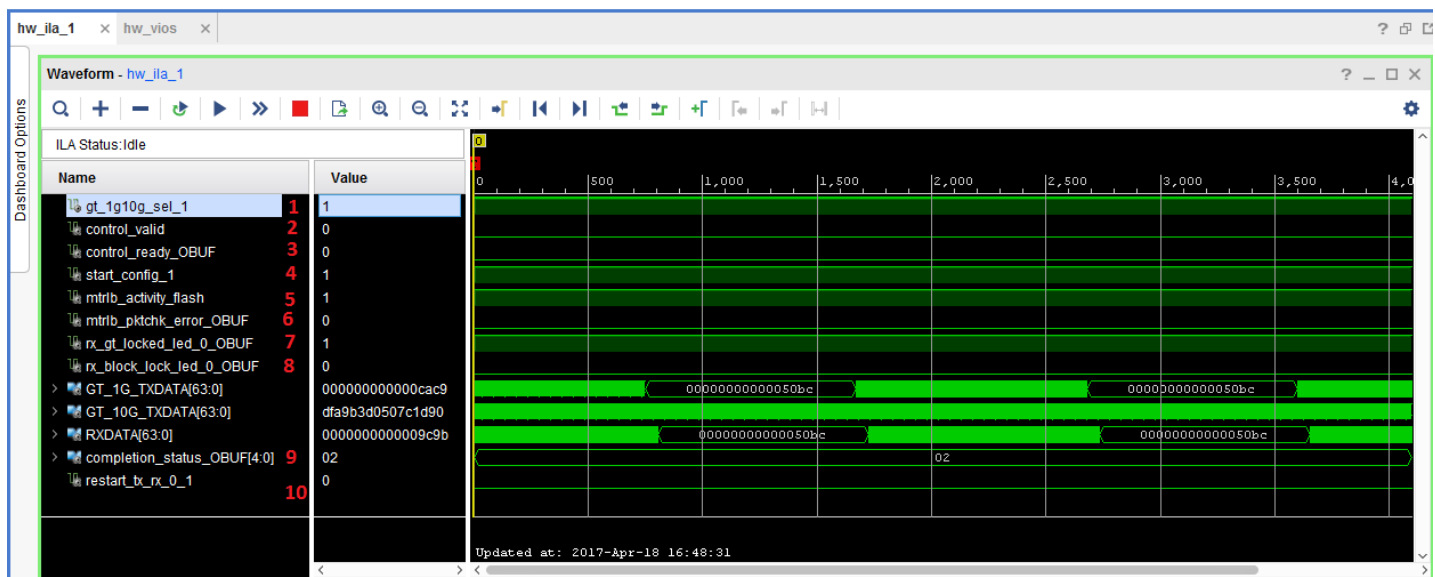

Figure 18: 1G - ILA Window
5. Click the **Run** trigger for this ILA core button in the ILA tab. The ILA waveform window is displayed as shown in Figure 18.
6. Observe rx_gt_locked_led_0 in ILA (see #7 in Figure 18). The value 1 indicates that the GT has been locked.
7. Observe mtrlb_activity_flash in ILA (see #5 in Figure 18). This signal toggles, which indicates that the pattern checker is receiving frames.
- Observe `mtrlb_pktchk_error` in ILA (see #6 in Figure 18). If the value is 1, this indicates that the pattern checker has received an error packet.